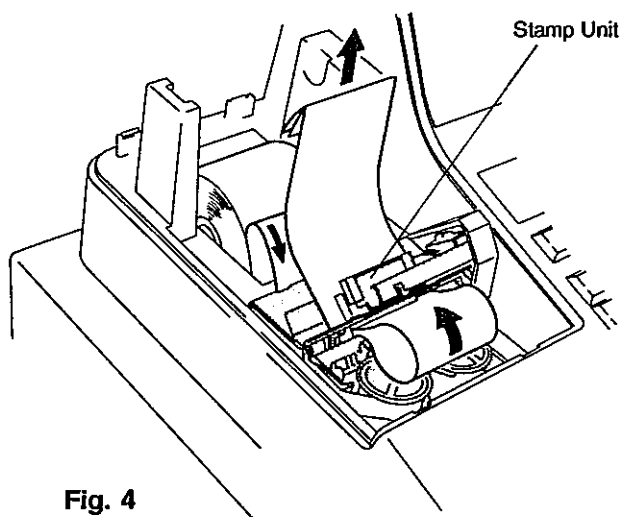

Fig. 4
4) Then insert the paper ends into the Stamp Unit located on the upper side of the printer, and pull up the paper a little so that the paper may correctly be tensed. (Fig. 4)